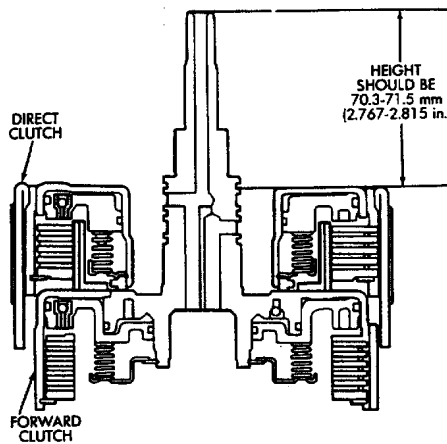

Fig. 14 Checking Direct Clutch Assembled Height
(10) Mount direct clutch assembly on forward clutch assembly and check assembled height (Fig. 14). Height should be 70.3 to 71.5 mm (2.767 to 2.815 in).
(11) If assembled height is incorrect, clutches are not seated.